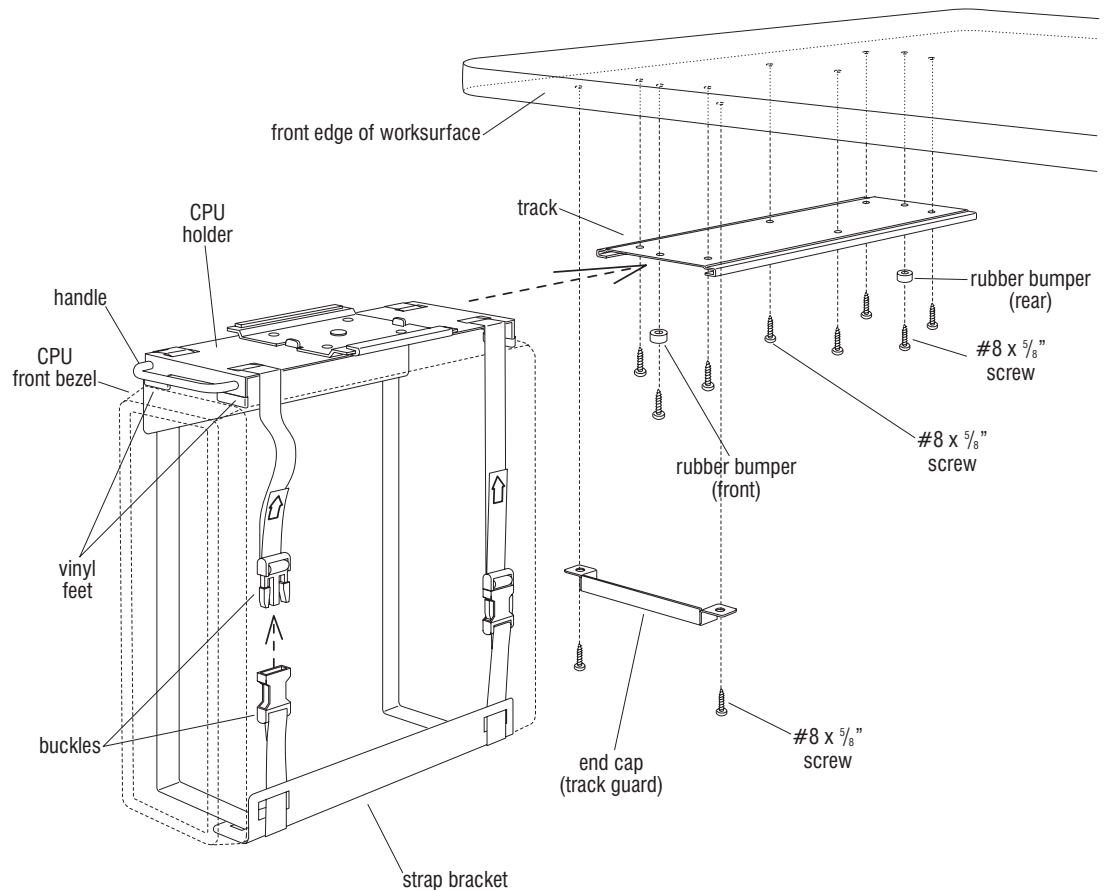

Figure 2
4. Be sure the straps are wrapped around the CPU as illustrated (Figure 2). Snap the buckle together. Hold the CPU securely and pull up forcefully on the strap ends to tighten (Figure 2). The straps must be pulled tight to secure, and periodic re-tightening may be required (Figure 2).
5. Determine the correct location to mount the track under the worksurface. The track must be positioned square to the front edge of the worksurface and set back from the front edge to obtain a desirable retraction position for your CPU. Use the track as a template and mark all eight of the hole locations on the underside of the worksurface (Figure 2).
7. Mount the track to the underside of the worksurface at the six outside mounting holes using the #8 x 5/8" screws provided. Press a rubber bumper onto a #8 x 5/8" screw and install bumper into the rear, center hole in the track. Make sure all screws are tight (Figure 2).
8. Slide the assembled unit and CPU into the grooves on the track until it stops at the rear rubber bumper. Press a rubber bumper onto the remaining #8 x 5/8" screw and install the bumper and screw into the front center hole in the track (Figure 2).
9. Position the end cap (track guard) in front of the track at the underside of the worksurface. Mark the two mounting hole locations (Figure 2).
11. Mount the end cap (track guard) to the underside of the worksurface with two #8 x 5/8" screws (Figure 2).